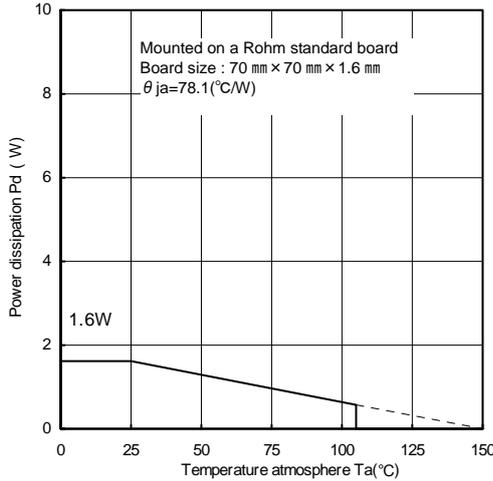
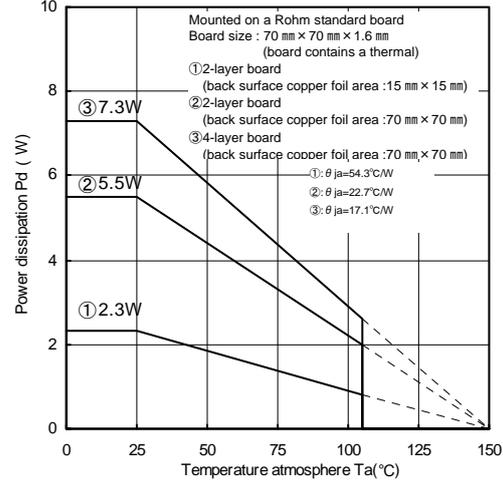

Fig.15
Fig.16 (Reference data)
When using at temperatures over  $T_a=25^{\circ}\text{C}$ , please refer to the heat reducing characteristics shown in Fig.15. and Fig.16. The IC characteristics are closely related to the temperature at which the IC is used, so it is necessary to operate the IC at temperatures less than the maximum junction temperature  $T_{j\text{max}}$ .
Fig.15 and Fig.16 shows the acceptable loss and heat reducing characteristics of the HRP5 package. Even when the ambient temperature  $T_a$  is a normal temperature ( $25^{\circ}\text{C}$ ), the chip (junction) temperature  $T_j$  may be quite high so please operate the IC at temperatures less than the acceptable loss  $P_d$ .
The calculation method for power consumption  $P_c(\text{W})$  is as follows :(Fig.16③)
$$I_o \leq \frac{3.796 - 10 \times I_b}{5} \quad \left[ \begin{array}{l} \text{Fig.16③: } \theta_{ja}=17.1^{\circ}\text{C/W} \rightarrow -58.4\text{mW}/^{\circ}\text{C} \\ 25^{\circ}\text{C}=7.3\text{W} \rightarrow 85^{\circ}\text{C}=3.796\text{W} \end{array} \right]$$